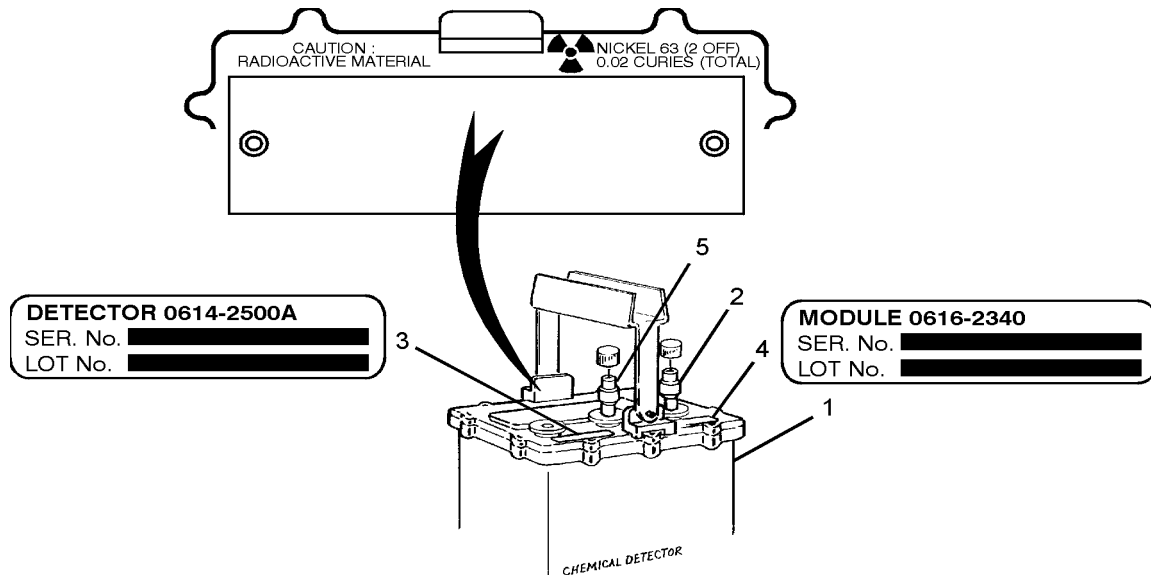

Figure 4-5.
- a. M22 Detector serial number - located right side of unit, near top (Figure 4-5, Item 1)
4.17.2.2 Using the prepared/enclosed swab, wipe exterior surface around the exhaust port (Figure 4-5, Item 2).